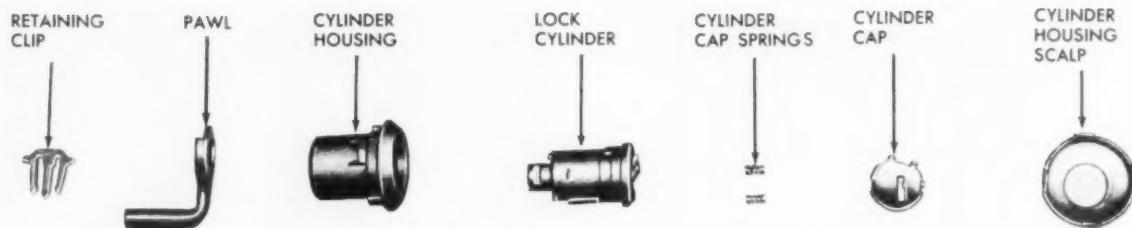

Fig. 4—Front door lock cylinder assembly—1960 Chevrolet sedan styles.
- 2.—With suitable tool, remove retaining clip and remove pawl (Fig. 4).